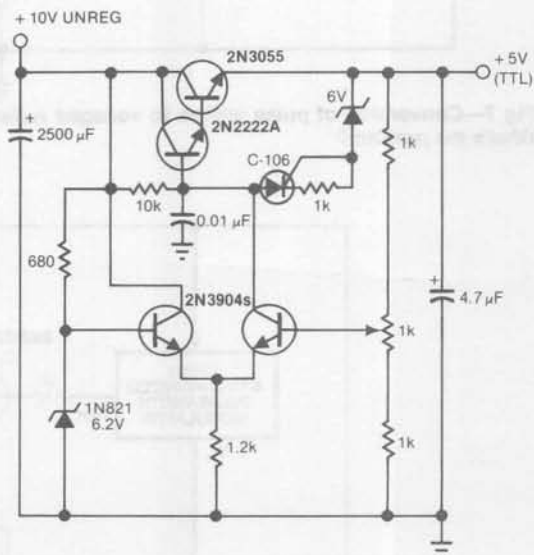

Fig 11—What judgment would you pass on this power-supply circuit—is it ready for production?
16. The data-acquisition power-supply circuit shown in Fig 11 is on your desk for final approval before going to production. Any comments?